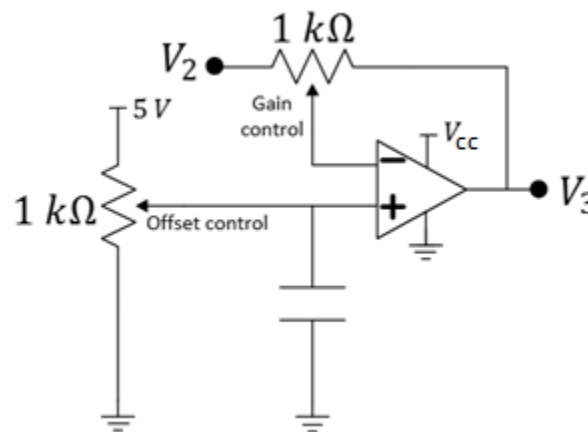

Figure 2: An (inverting) amplifier with gain and offset control.
- ✓ Build the circuit shown in Figure 2. Use any small capacitor ($0.1\ \mu F$ is a good choice). The potentiometers may also be substituted with others up to $10\ k\Omega$ in value. Use at least 6 volts for the supply voltage, V_{CC} . A nine-volt battery or the NiMH battery in lab would work very well. Set the potentiometers to **half their value** using an Ohmmeter as your starting point for adjusting. If you don't have an ohmmeter, just set them to the center of their mechanical limits.
Question 1: Record below the pinout for the LM358 chip and label the pin numbers on the Op Amp circuit schematic in Figure 2 as well.
Question 2: Draw circuit-schematic parts to the LM358 chip above to show how to construct the gain-and-offset amplifier shown in Figure 2.